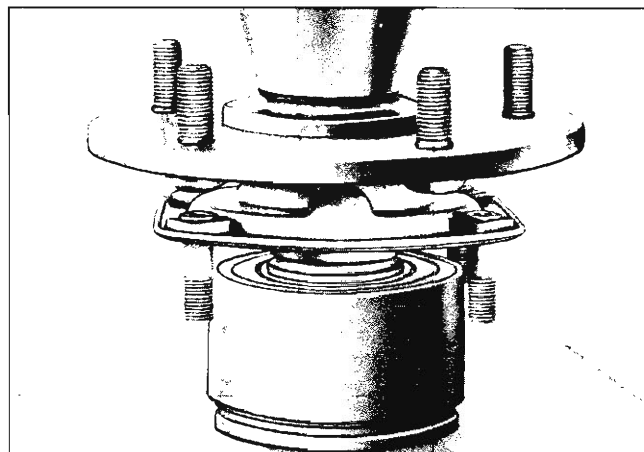

Fig. 4—Installing Axle Shaft Wheel Bearing
3. Install bearing by seating bearing in Tool J-6661 and pressing axle shaft into bearing until inner race contacts shoulder on axle shaft (fig. 4).